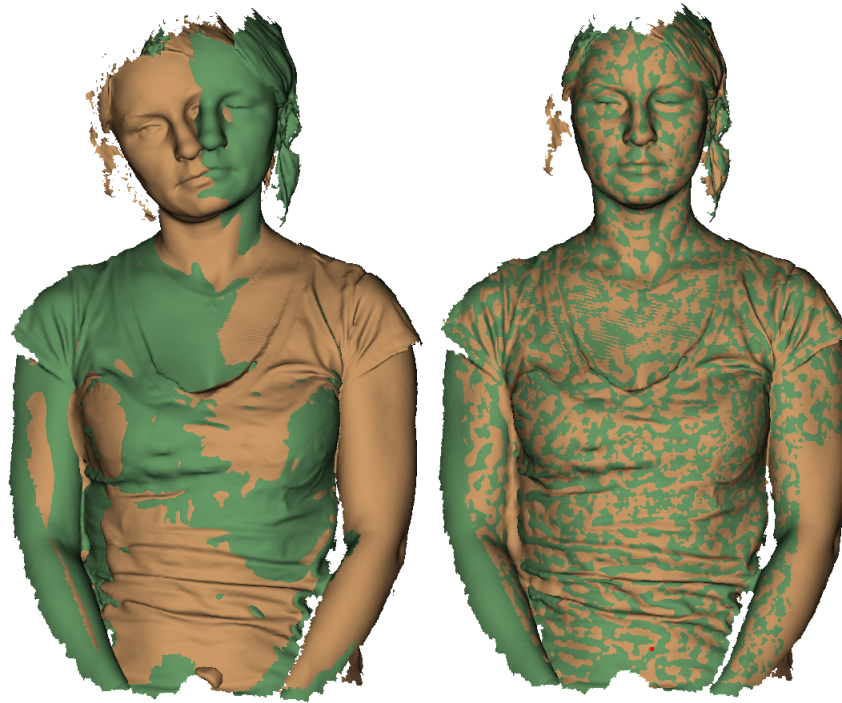

Figure 129: Two models after Best Fit (left) and nonrigid alignment (right).
While Best Fit (rigid) alignment can only perform such transformations as translation and rotation, the nonrigid algorithm can deform 3D data. This algorithm is intended to process so-called nonrigid objects: objects whose shapes have changed during the scan (e.g., models of animals or humans—see Figure 129, left). Keep in mind that the surface Artec Studio produces as a result of the deformation may differ from the surface of the actual object.
5. Click *Align....* The algorithm will align models by deforming one of the model (see Figure 129, right). If you are dissatisfied with the alignment results, click ↺ and specify additional point pairs, or reposition the current pairs.